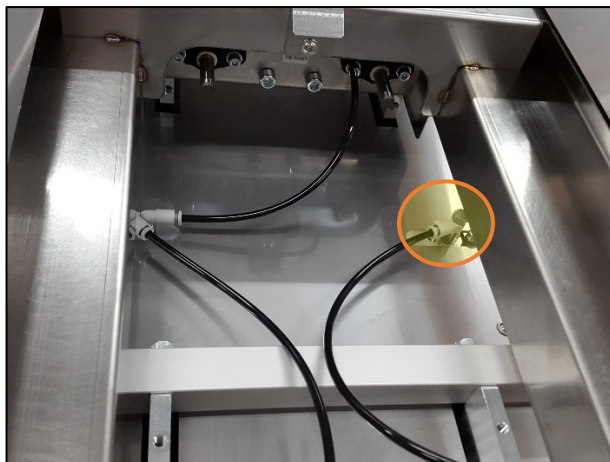

Figure 5-3: Rotary Knob Regulator
2. The interior of the feeder is now accessible (see following figure). You can now increase the speed of the retainer (clockwise) or decrease (counterclockwise) by turning the rotary knob regulator shown in Figure 5-3.